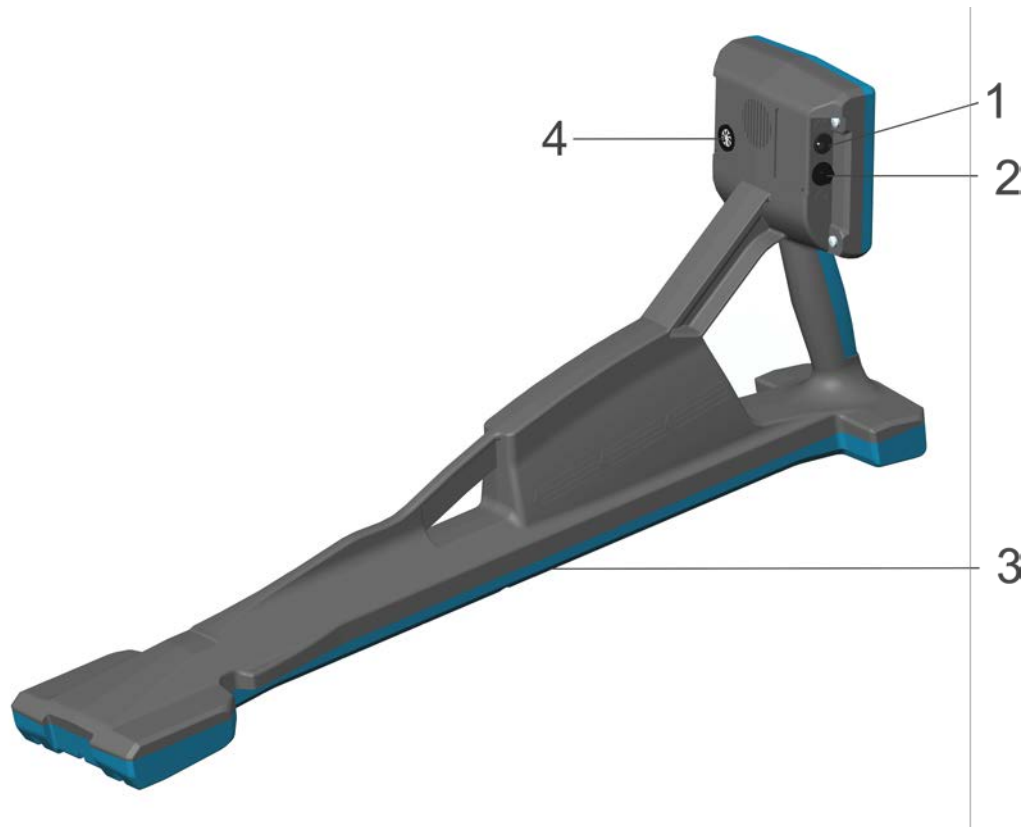

Figure 1.4.1 – Locator appearance.
1.4.1 Locator appearance is shown in Figure 1.4.1.